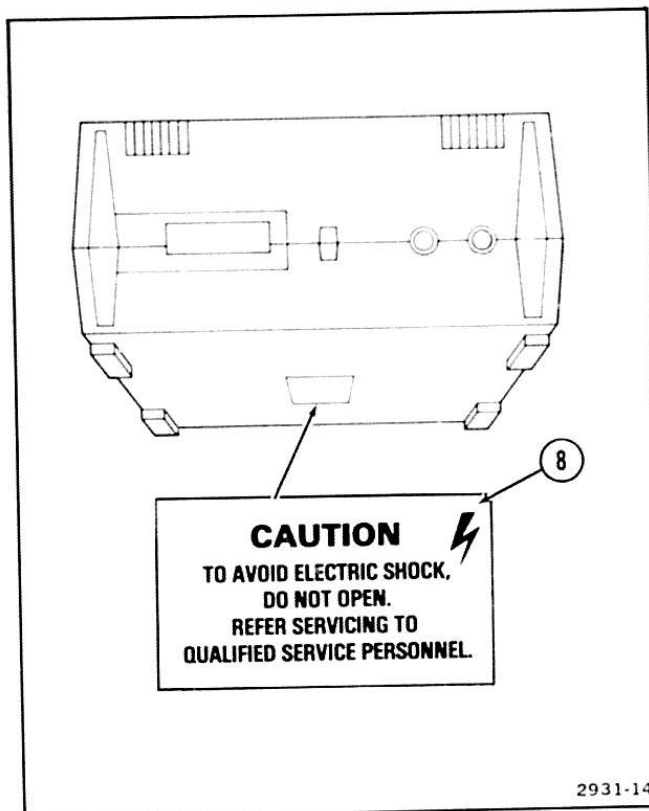

Figure 11. Bottom-panel caution label.
Refer to Figure 11 for the location of item 8.
- ⑧ **CAUTION Label**—Warns operators not to open the A6902 case.